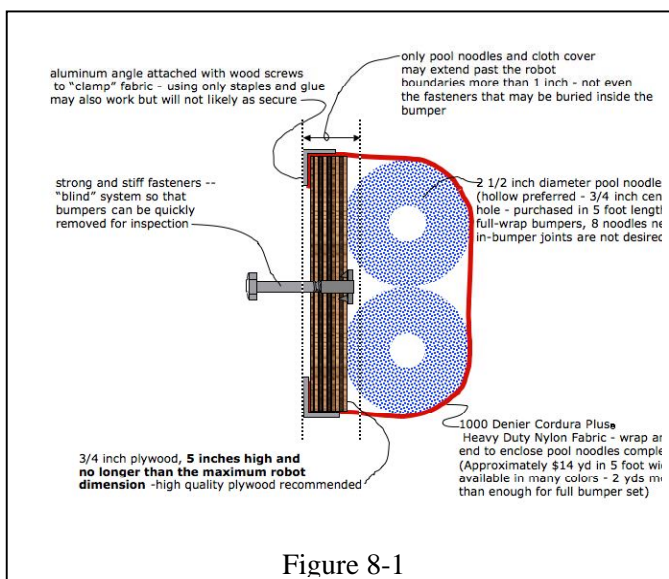

Figure 8-1
- STANDARD BUMPERS must be designed as shown in figures 8-1 and 8-2. This is the only acceptable design for STANDARD BUMPERS.